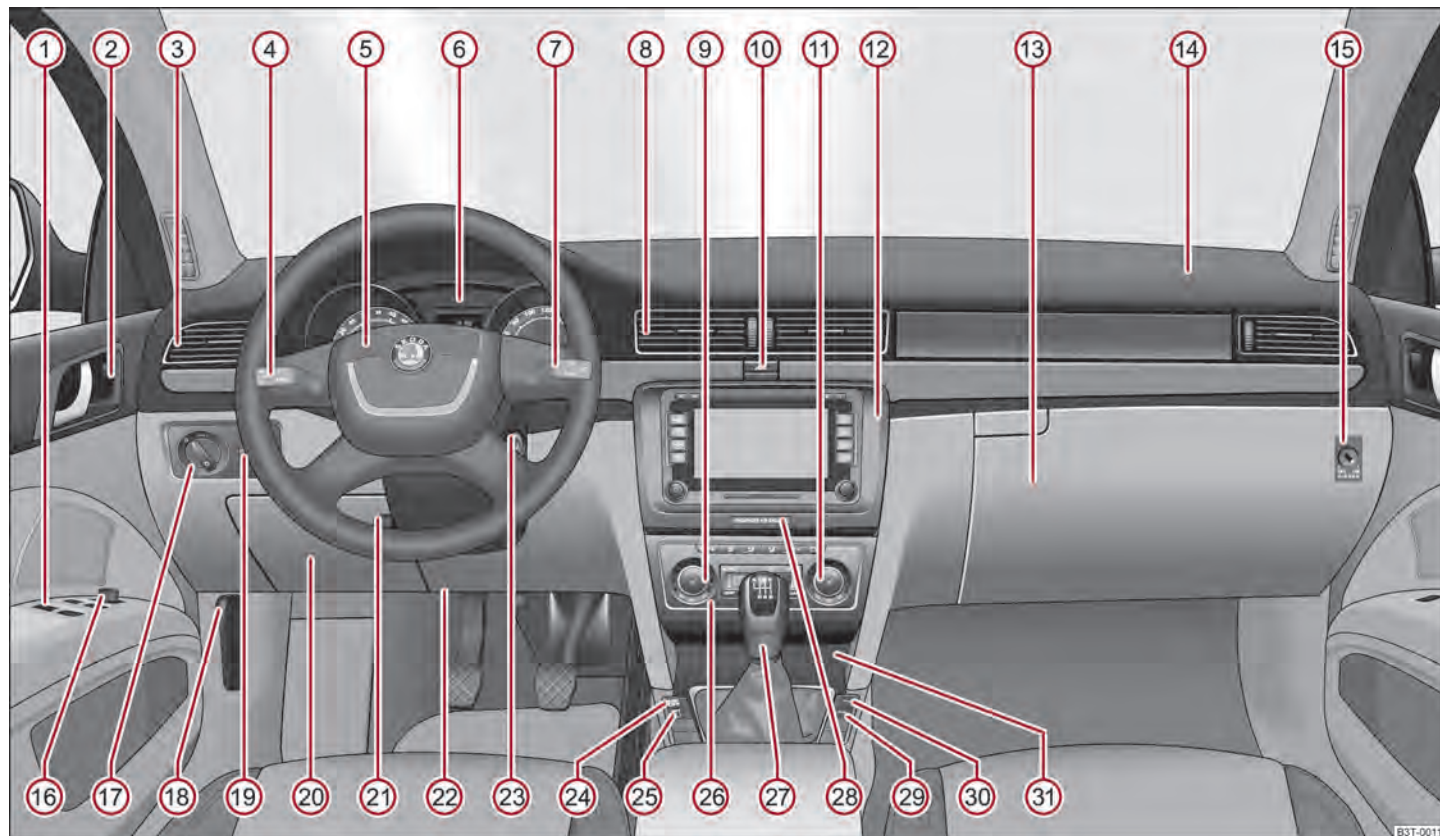

Fig.1 Cockpit
- The arrangement of the controls and switches and the location of some items on right-hand drive models may differ from that shown in  fig. 1. The symbols on the controls and switches are the same as for left-hand drive models. ■